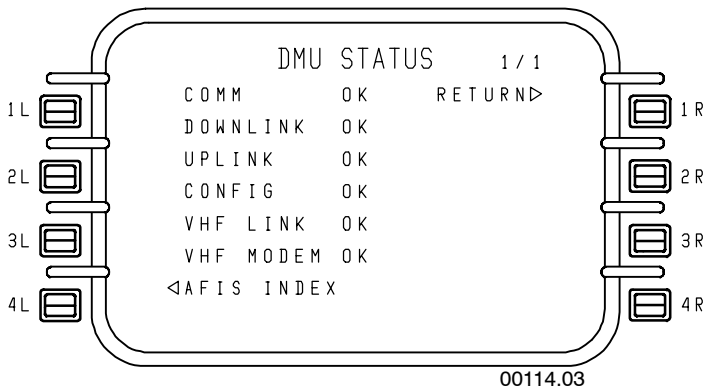

Figure 6-67
- **DMU STATUS 1/1** – This page is selected from page 2 of the AFIS index. This single page displays the condition of the various AFIS subsystems and is shown in Figure 6-67. No data entries are permitted on this page.